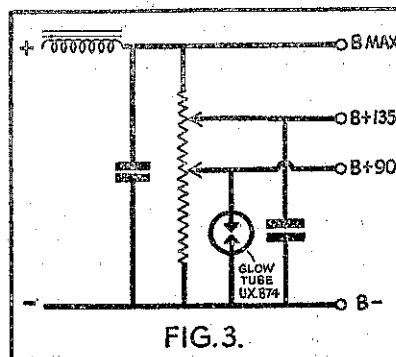

FIG. 3.
**C**OMING now to the other type of voltage regulator, this is represented by the UX874 voltage regulator tube, which maintains a constant potential drop of 90 volts over a wide range of current values. It is normally connected in parallel with the lower portion of a potential divider across the output of a B supply unit as in fig. 3. The tap to which one terminal of the 874 is connected maintains the required voltage of 90 almost irrespective of the drain from this point. It will also be clear that other tapings on the potential divider will maintain a much more constant potential than would otherwise be the case. A voltage of 180 can be maintained absolutely constant if desired by connecting two of these tubes in series.